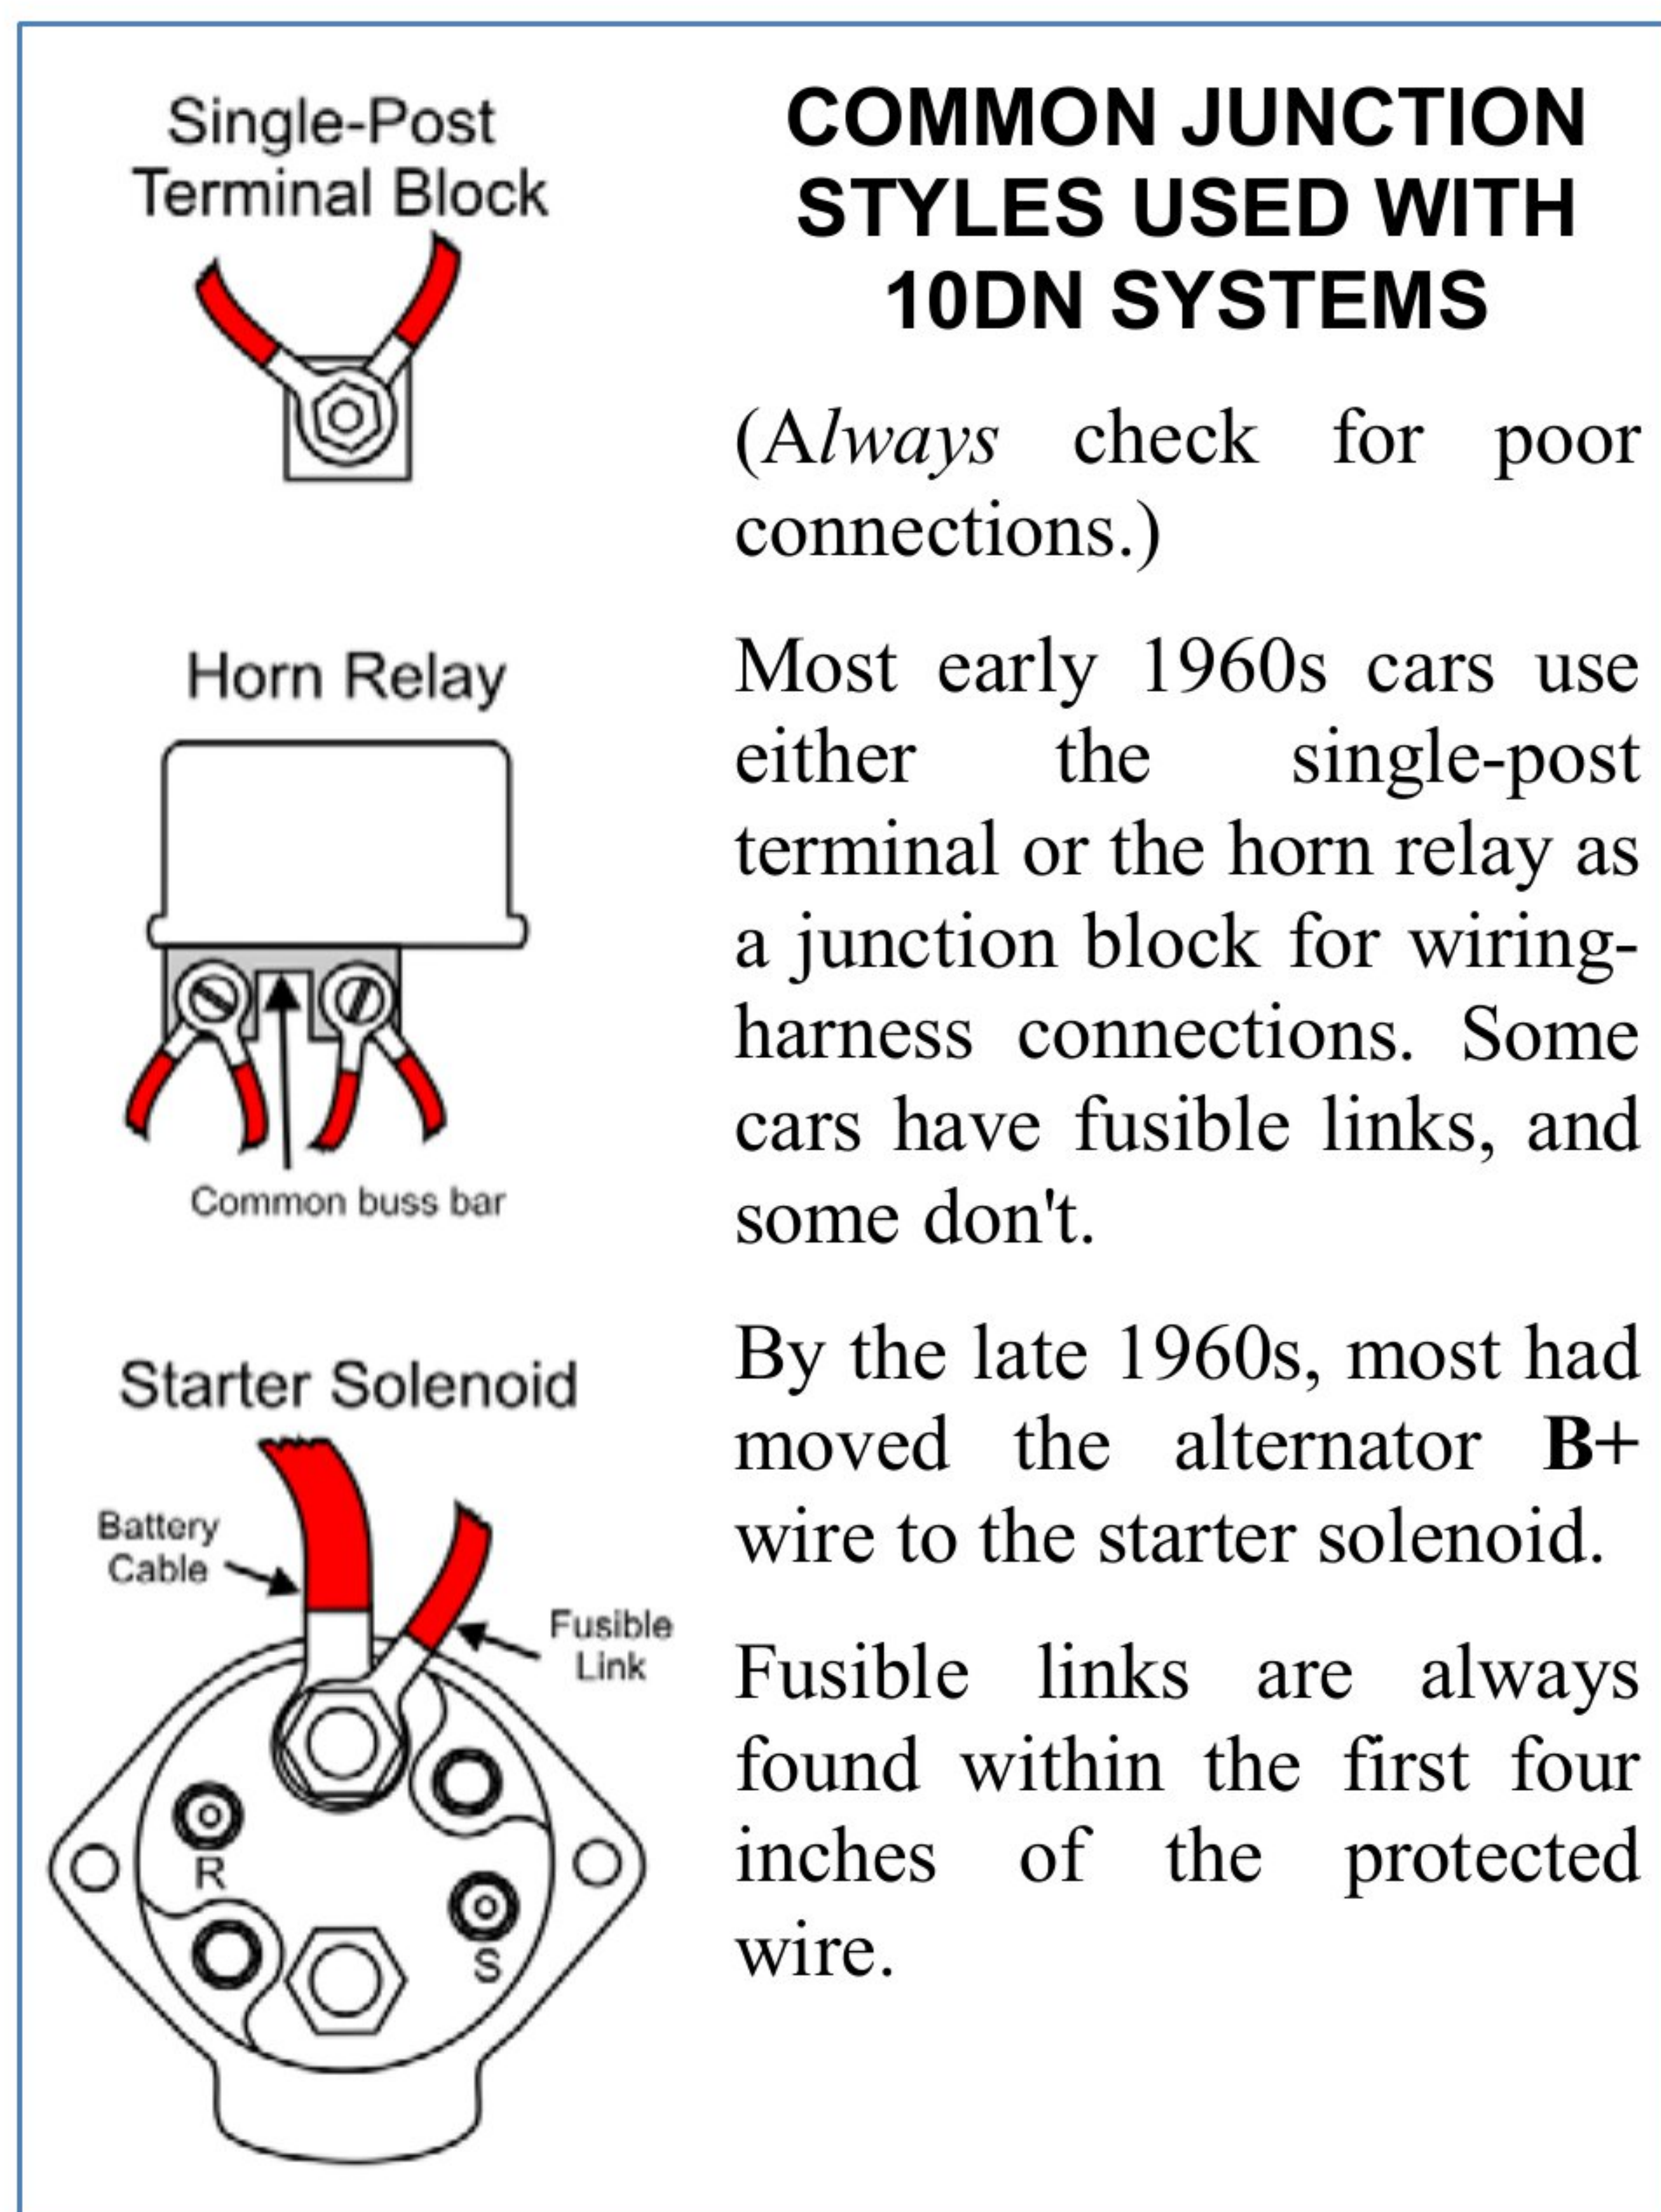

Figure 2 – Types of alternator **B+** wire connections
- G) **Connection Block**—(see *Figure 2*) Some vehicles use a horn relay. Some use a small junction block, and some have all the connections inside the wiring harness. By the late 1960s, GM moved this connection to the battery cable connection of the starter solenoid. This is a good place to check for poor connections. Use dielectric grease to coat all connections. Use dielectric grease to coat all connections.
Step 2: Use a voltmeter or a test light and check for power at the **B+** stud on the alternator and the "3" terminal at the regulator. If both have power, then skip to Step 3. If neither has power, check the fusible link (if so equipped). If the alternator **B+** has power, but not the regulator "3" terminal, check the junction points shown in *Figure 2*.